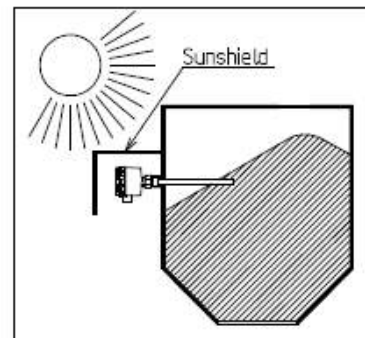

Fig. 5-7
(7) Avoid exposure to direct sunlight. In summer especially, direct sunlight causes internal temperature to exceed the ratings. Provide a sunshield\* if necessary. (Fig. 5-7)